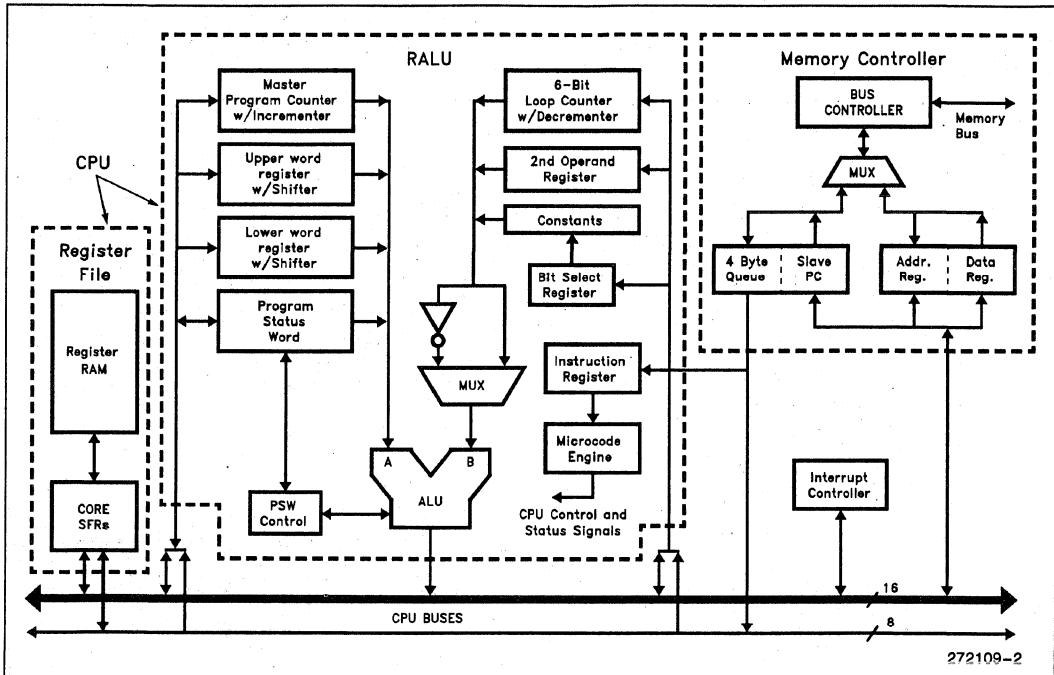

Figure 2.1 Block Diagram of the Register File, RALU, Memory Controller and Interrupt Controller
Calculations performed by the CPU take place in the RALU. The RALU shown in Figure 2.1 contains a 17-bit ALU, the Program Status Word (PSW), the Program Counter (PC), a loop counter and three temporary registers. The RALU operates directly on the Register File, thus eliminating accumulator bottleneck and providing for direct control of I/O operations through the SFRs.